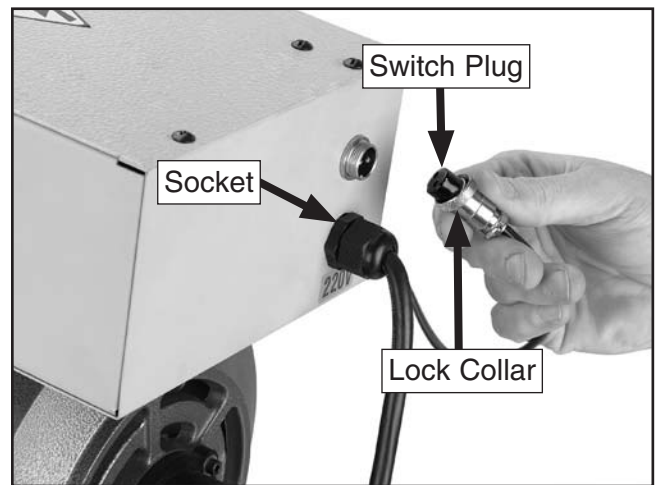

Figure 15. Connecting switch plug.
6. Connect the handle switch plug to the control box by aligning the plug with the socket, then threading the lock collar (**Figure 15**).